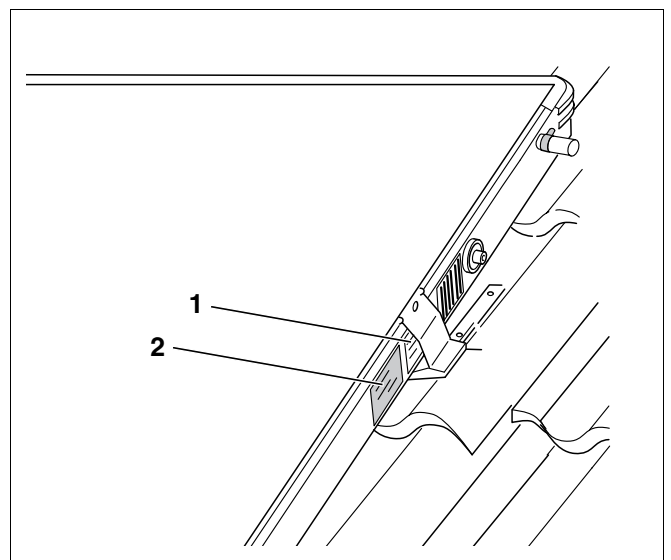

Fig.3 Location – type plate label
- Affix the type plate label (Fig. 3, **Item 2**) at the top of the r.h. side of the collector, i.e. next to the existing type plate (Fig. 3, **Item 1**).